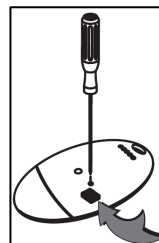

FIG. 9
4. The display will show “Hidden button”. Press the hidden button of the transmitter you want to store as shown in Fig. 9.